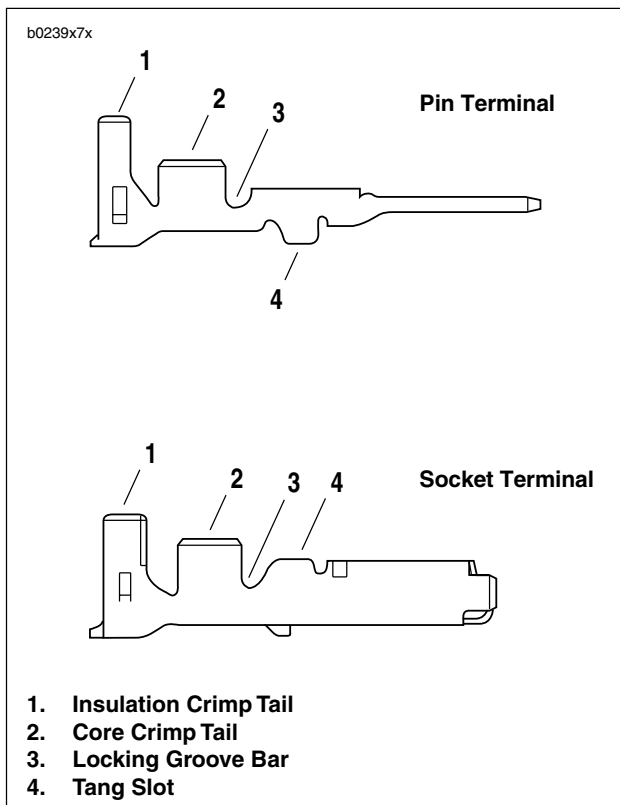

Figure 7-81. Crimps
6. See Figure 7-81. Inspect the quality of the core and insulation crimps. Distortion should be minimal.